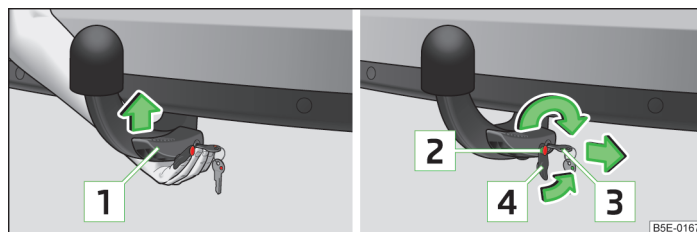

Fig. 148 Insert the ball rod/lock up the lock, and put the lock cover on
- Grab the ball rod **from underneath** » Fig. 148 and insert into the mounting recess until it audibly clicks » .
The lever » Fig. 148 **automatically** turns upwards and the trigger pin comes out (its red and green part is visible) » .
- Push the cap » Fig. 148 onto the lock in the direction of the arrow » .